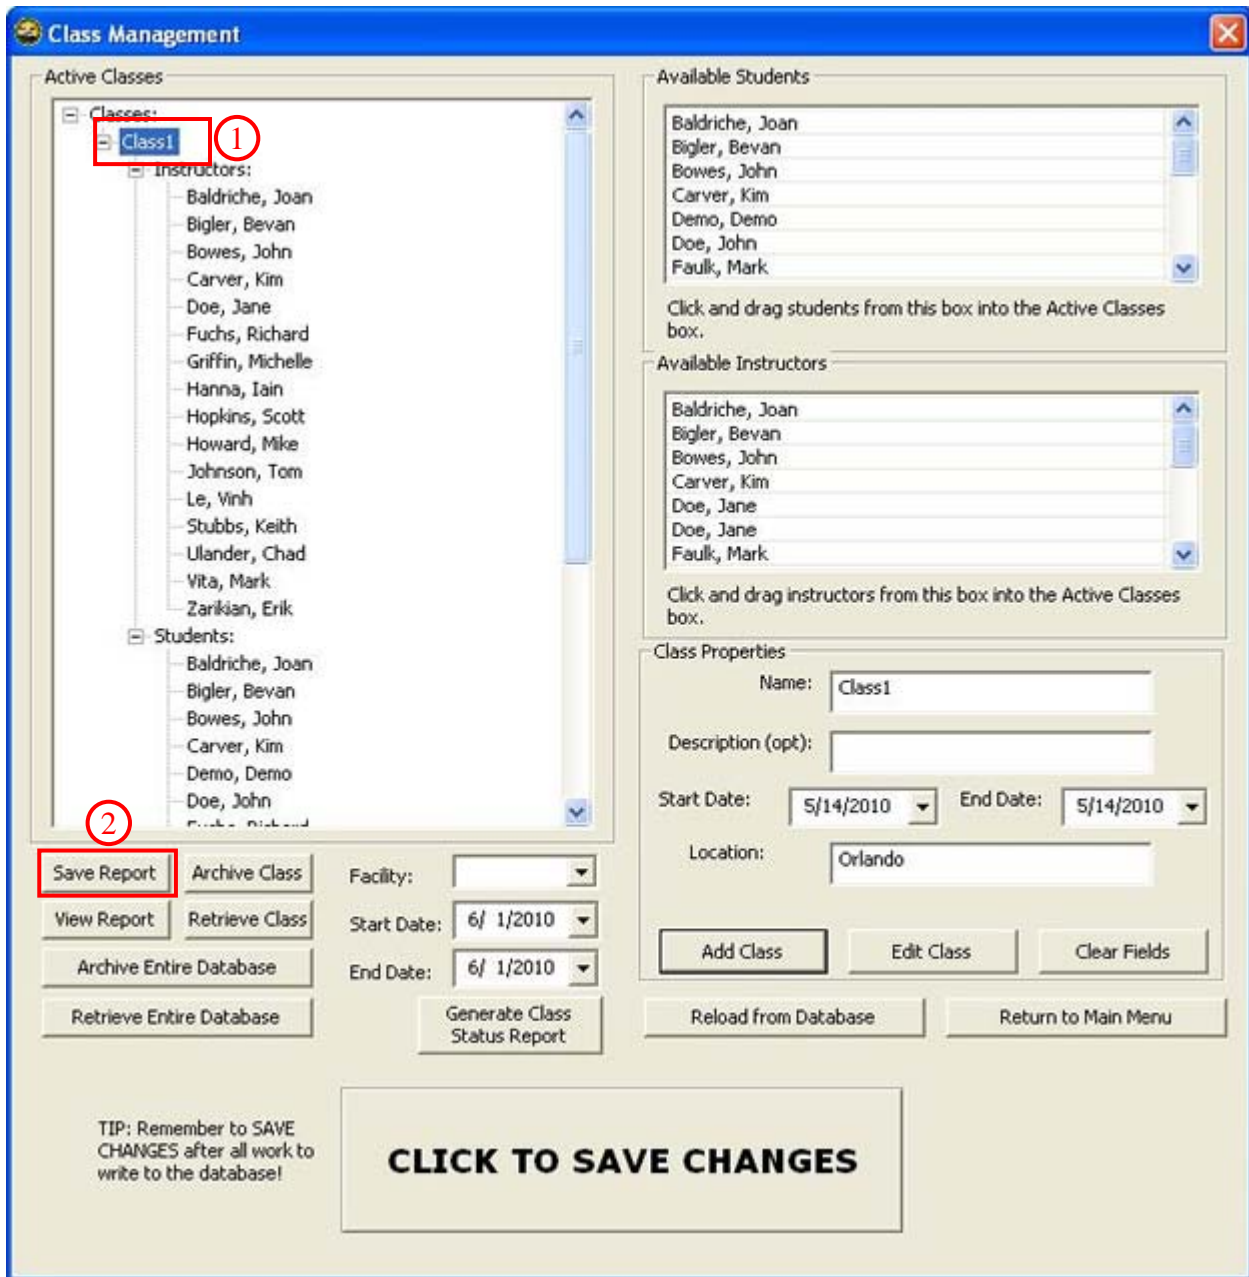

Figure 86. Class Management - Save Report
1. Select a class from the *Active Classes* list (Figure 86).